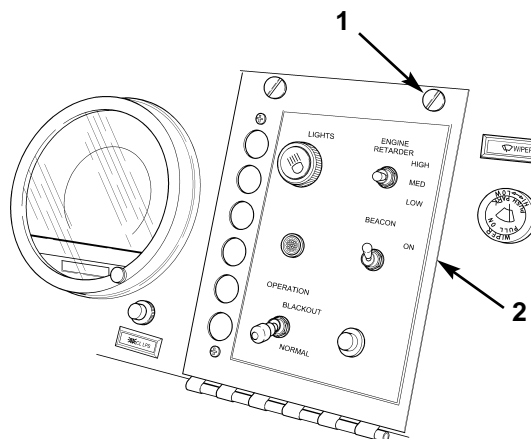

Figure 81. Securing Center Control Panel.
27. Close center control panel (figure 81, item 2) and turn two turnlock fasteners (figure 81, item 1) 90 degrees.